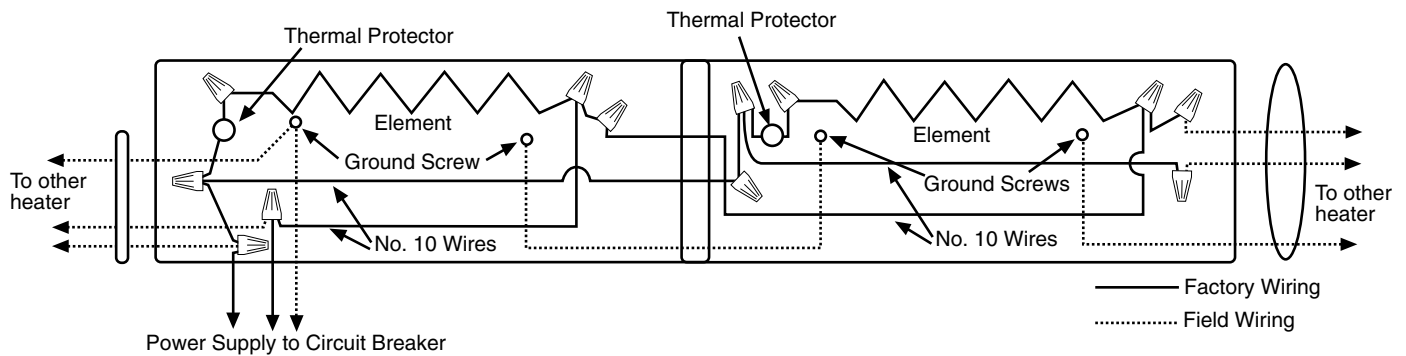

Fig. 8
2. Wiring procedures and connections must be in accordance with the National Electrical Code (NEC) and local codes. Refer to Wiring Diagram on heater and Figure 8. Make sure all electrical connections are tight to prevent possible overheating. Use Copper Supply Wire Only.
- Following the wiring diagram secured to the heater, make the electrical connections. Refer to Fig. 8 to connect the other heaters in parallel. Grounding of the other heaters is accomplished by connecting a jumper wire (not supplied) between the two adjacent heaters.
IMPORTANT NOTE: These heaters are provided with a built-in safety limit (Thermal Protector— see Fig. 8) to automatically turn off the heater if it is blocked or otherwise overheats due to an abnormal condition. The heaters should not be cycling off on this safety control during normal use. If this is occurring, check heater installation to assure it has adequate clearances and the free airflow around heater is not restricted. If heater continues to cycle on this safety control, discontinue using until it can be inspected and/or repaired by a qualified electrician.